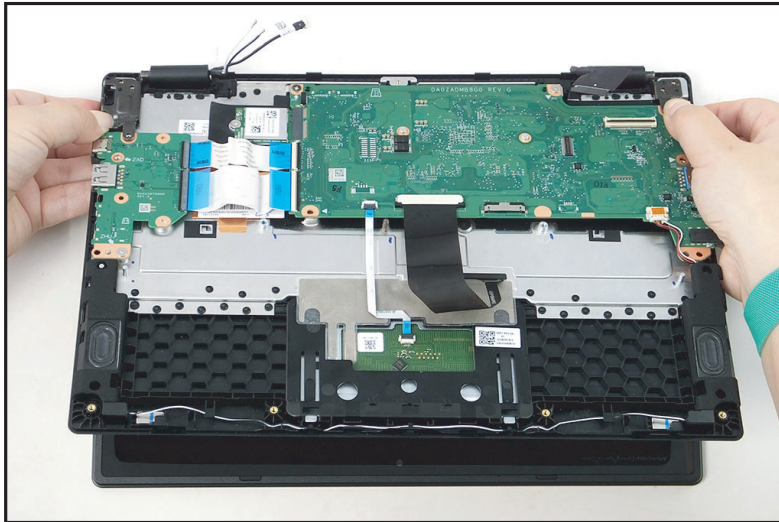

Figure 3-13. LCD Module Removal
8. Place your thumbs on the left and right side hinges while holding the top assembly with your two hands. Slightly rotate the top assembly upwards and release (Figure 3-13).